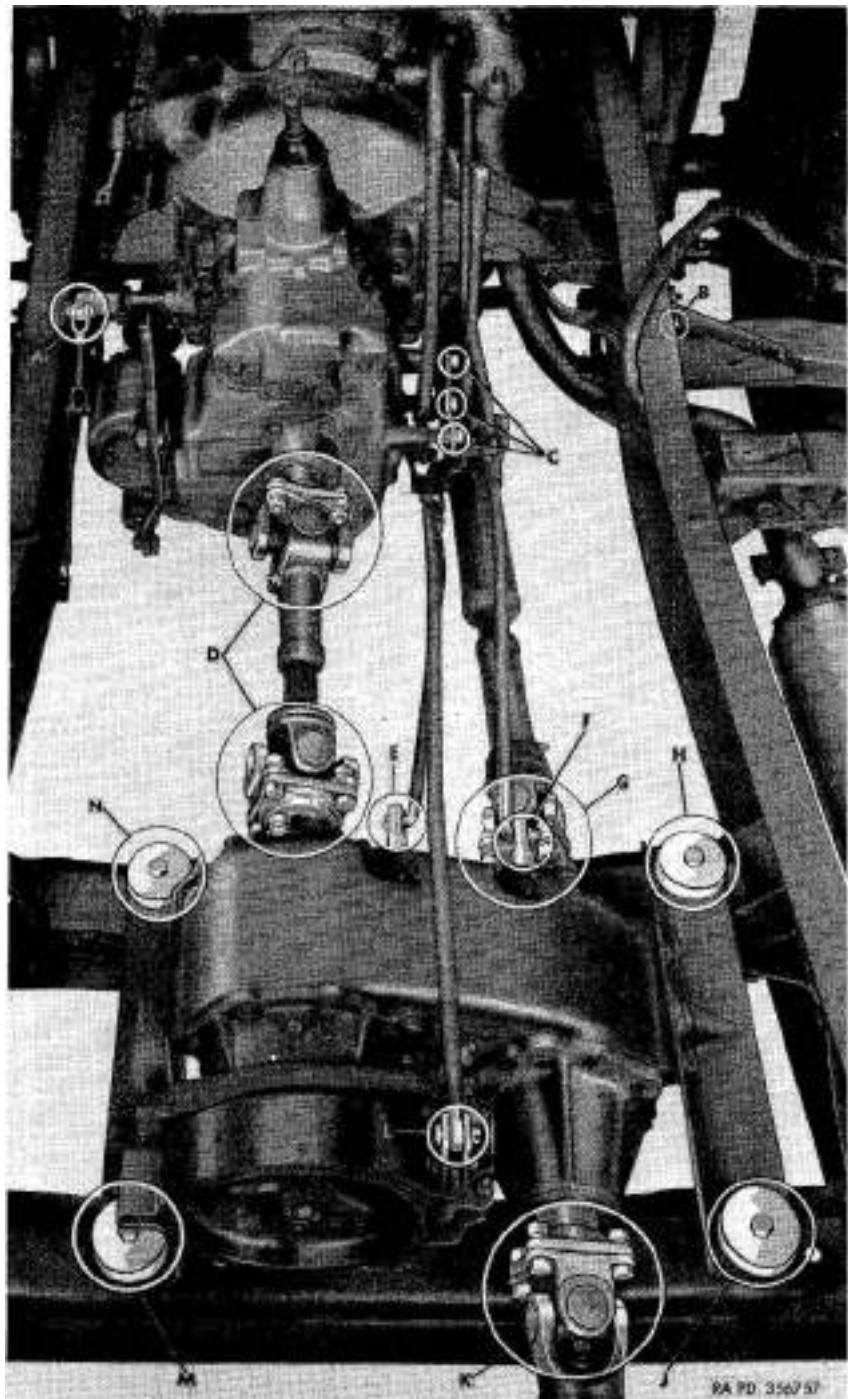

Figure 24. Power plant and transfer disconnect points.
- (1) Remove transmission-to-transfer propeller shaft assembly (four bolts, nuts, and lock washers, each companion flange) (D, *fig. 24*).
- (2) Disconnect transfer shift lever control rods from transfer shifter shafts and hand brake rod from hand brake (E, F, and L, *fig. 24*) (three cotter pins and one clevis pin). Remove levers and bracket assembly from transmission (three screws and lock washers) (C, ***fig. 24***).
- (3) Disconnect bonding ground strap on clutch housing at frame side rail (B, *fig. 24*) (one cap screw, nut, and two lock washers).
- (6) Remove cotter pin and clevis pin and disconnect clutch operating rod from clutch release fork lever (A, *fig. 24*).
Remove front axle and rear axle propeller shaft assemblies (four bolts, nuts, and lock washers, each companion flange) (G and K, fig. 24).
Remove nuts, plain washers, and lock washers from the bolts (H, J, M, and N, fig. 24), which attach transfer assembly to frame cross members (fig. 28). Lift transfer from frame cross members and remove transfer mounting bracket insulators, mounting bracket insulator spacers, and bolts.